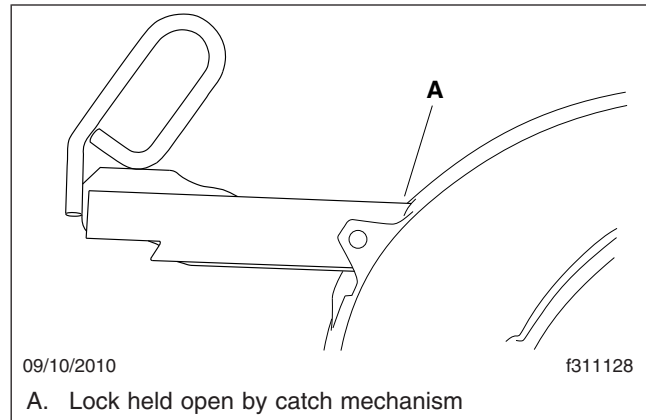

Fig. 17.5, Jost Release Handle Unlocked
2. Open the kingpin locks. See Fig. 17.5.
- 6.3 **Jost:** Pull the retractable release handle out, then secure it in the open position with the catch. See Fig. 17.5.